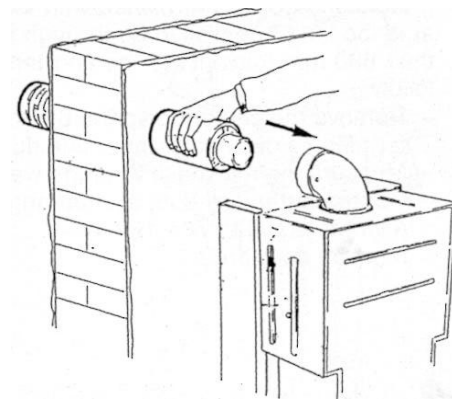

Fig. 35
5.7.6 Working above the boiler pull the flue duct towards the elbow in order to engage tube into its header (Fig. 35). Position flue into straight header and push so as to locate inner and outer flue correctly. Ensuring good seal is made with o.rings.